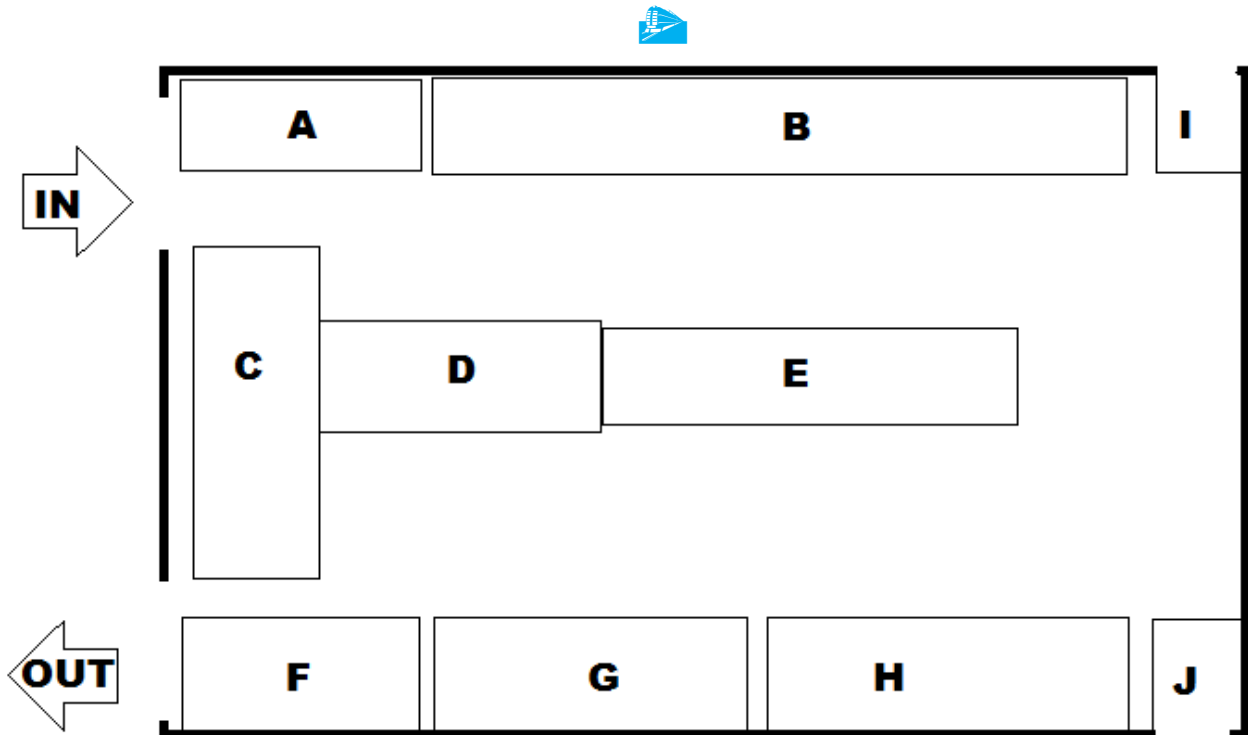

FIGURE 4
5.1 FIGURE 4 shows a sketch of a workshop floor layout with different areas marked A–J. Indicate in which are, you will place the departments listed below to ensure that the work flows smoothly and safety standard are maintained.